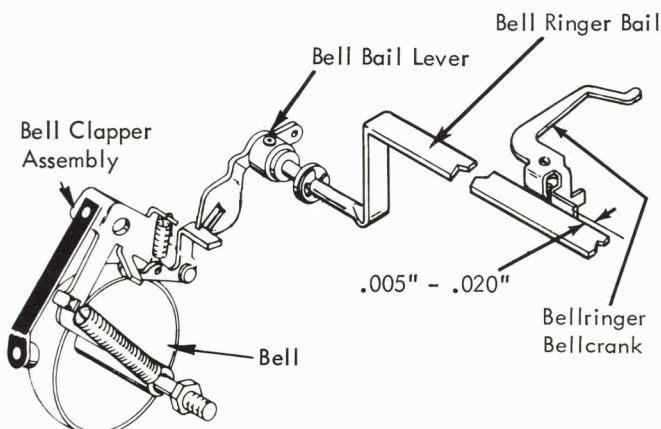

FIGURE 181. Bell Bail Lever (Late Style)
- b. Late - With the carrier positioned away from the right hand margin stop, adjust the bell bail lever located on the left end of the bellringer bail so that when the bottom portion of the lever is allowed to contact the underside of the bell clapper bellcrank lever a clearance of  $.005"$  to  $.020"$  will exist between the bellringer bail and the bellringer bellcrank (Fig. 181).